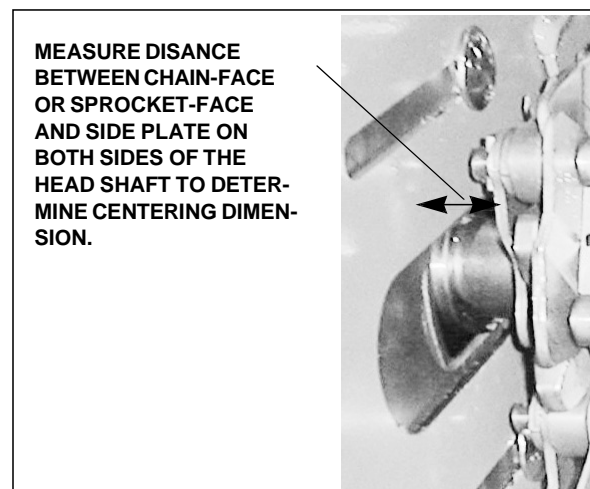

Figure 5. Headshaft Centering Measurement
a) Measure the distance between the headshaft sprocket face (or chain face) and the inside of the sidewall on both ends of the shaft to verify that the metal belt (or drag chain) is centered in the discharge section (Figure 5). If not, proceed as follows:
- Measure the distance between the chain face (or sprocket face) and the inside of the sidewall (Figure 5). Be sure that the sprockets are centered (distance is equal for both sides).
- Adjust the headshaft so that the chain is equal distant between the chain and the inside of the side plate on each side (Figure 5).